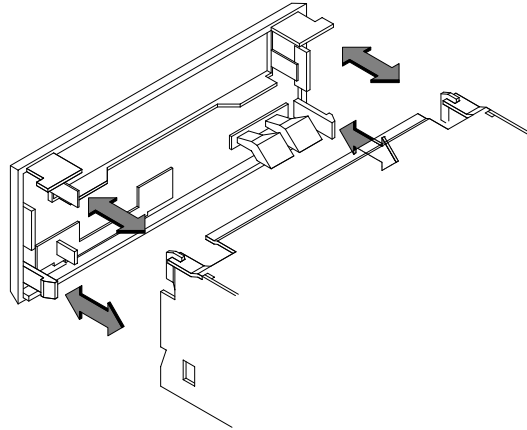

Figure 3-1. Adding a Bezel to the DDS-3 Drive
- To add a bezel (it can be a 3.5-inch bezel, or a 5.25-inch bezel) to your drive, push onto the drive, making sure the tabs click into place. Refer to Figure 3-1.